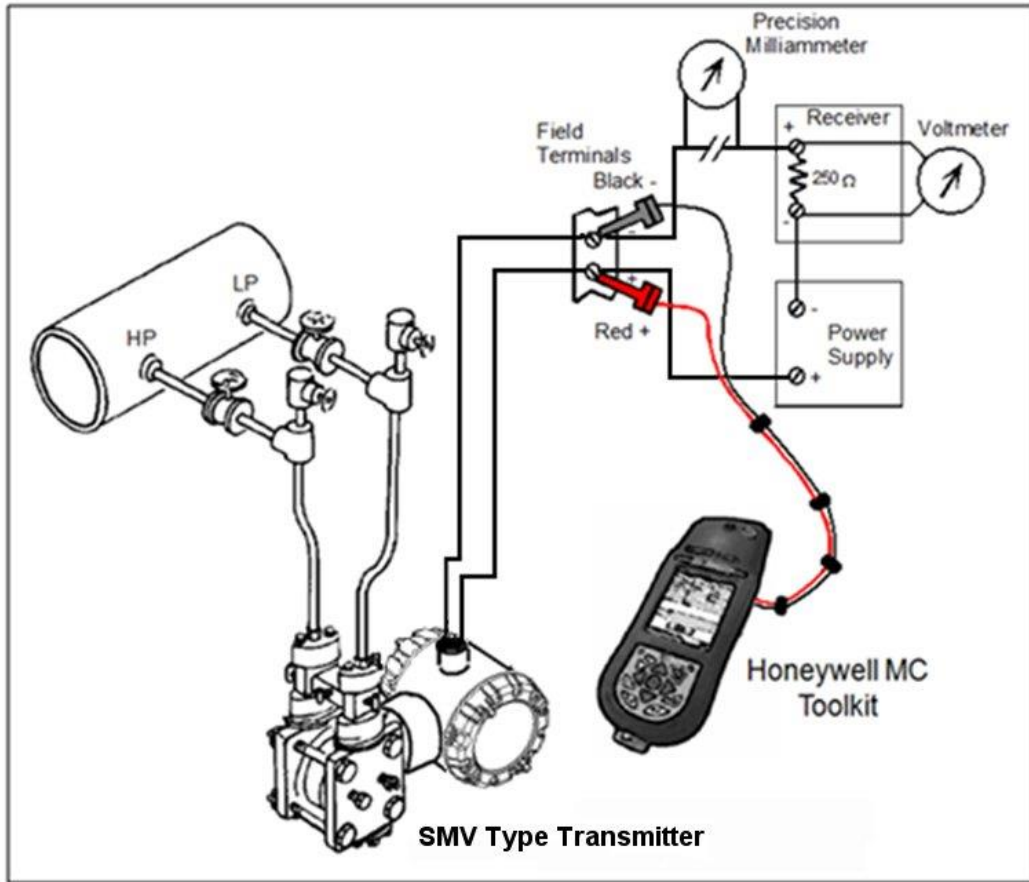

Figure 15 – Current Loop Test Connections
1. Refer to Figure 15 for test connections. Verify the integrity of electrical components in the output current loop.